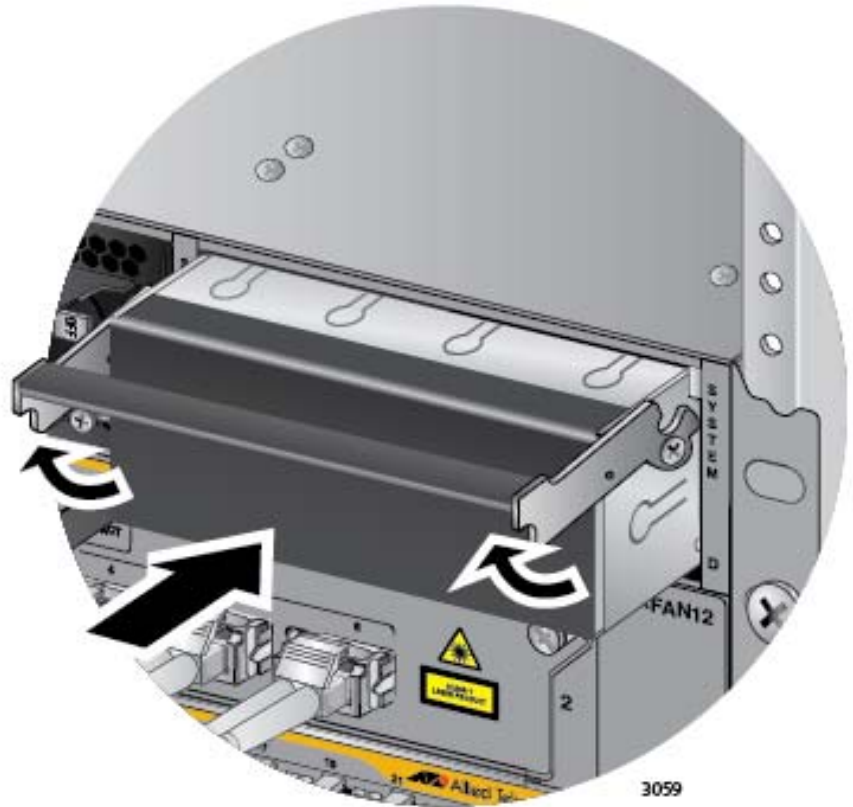

Figure 159. Installing a Blank Power Supply Slot Cover
13. Place the locking handle on the slot cover in the up position and slide the cover into the empty power supply slot. Refer to Figure 159 on page 247.